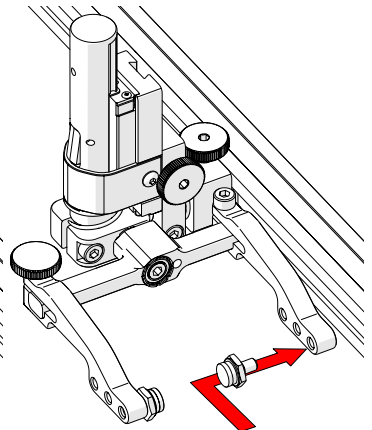

Fig. 43 - Place buttons
3. Position the pivot buttons where necessary. When narrow scanning footprint is required, use the pivot button holes closest to the yoke (Fig. 43).